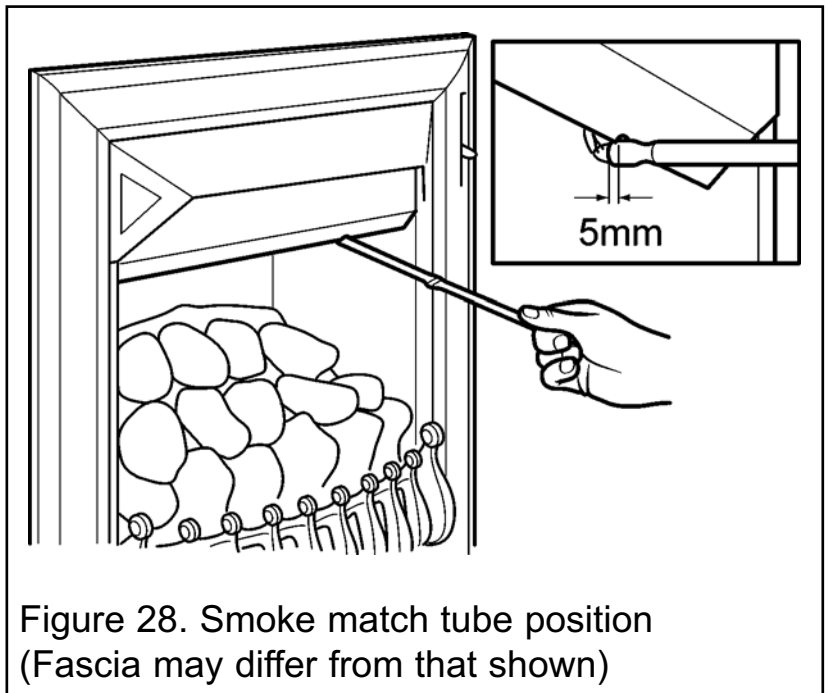

Figure 28. Smoke match tube position (Fascia may differ from that shown)
4. The smoke match should be placed horizontally into the convection box at the right hand side. There is a notch in the black cross member. Insert the tube so that the neck of its flared end is 5mm passed and in contact the cross member (See figure 28).